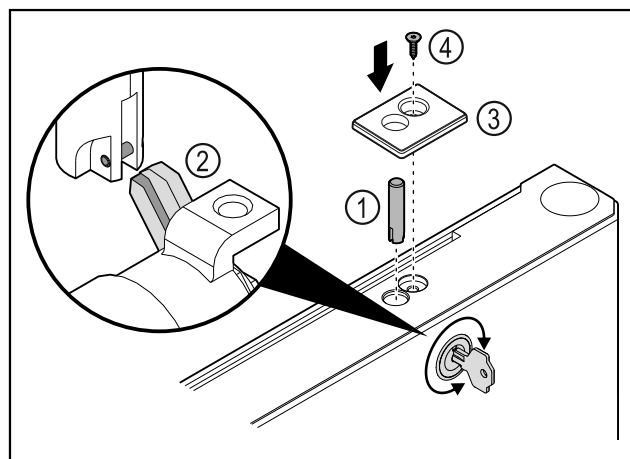

Fig. 46
- Put in the lock bolt Fig. 46 (1).
- Turn the lock slightly so that the lock bolt Fig. 46 (2) engages in the slot of the lock.
- Put in the cover Fig. 46 (3).
- Insert the screw Fig. 46 (4).